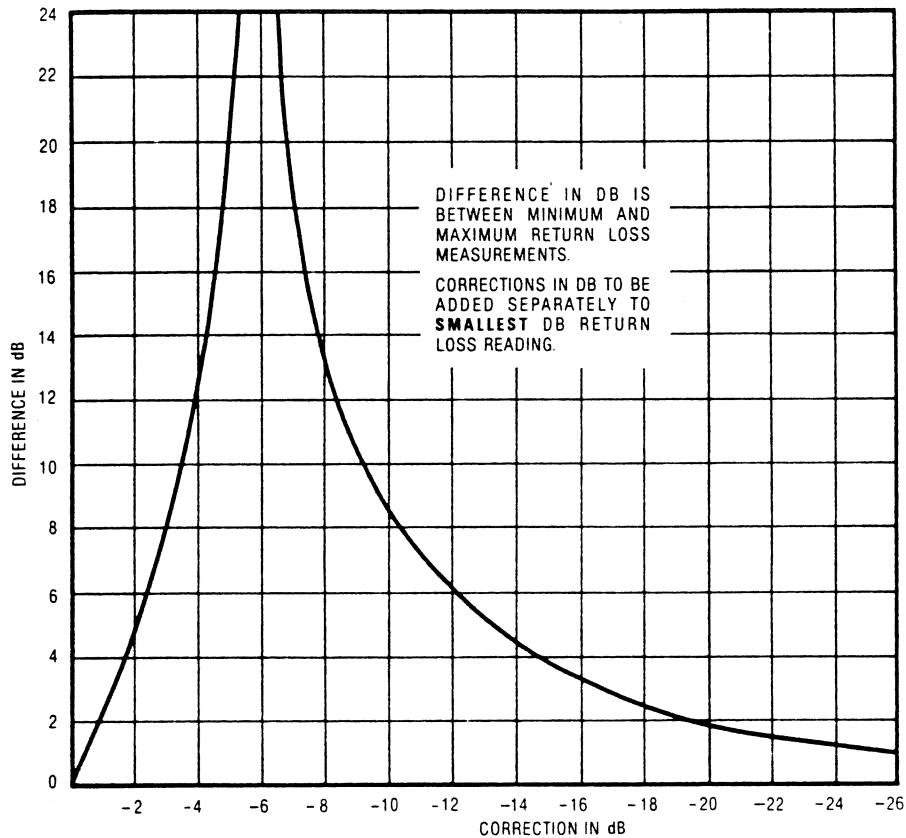

Figure 4-c. Signal Separation Chart
11. The maximum and minimum measured return loss values correspond to the directivity signal and the sliding load signal adding and subtracting. You can separate these two signals with the signal separation chart, Figure 4-c. Calculate the difference in dB between the maximum and minimum measured return loss for the first chosen frequency and locate this value on the vertical axis of Figure 4-c. Draw a horizontal line across the chart from this point and note the two places where it intersects the curves. The intersections are the two correction values in dB. Add each of them to the minimum measured return loss. The resulting two corrected values are the directivity signal and the sliding load reflected signal. Exactly *which* value represents directivity is determined later in this procedure.
**Example:** At 3 GHz you measure a maximum measured return loss of  $-42$  dB and a minimum return loss of  $-30$  dB. The difference is 11 dB. Refer to Figure 4-c. Find 11 dB on the vertical axis, and draw a horizontal line across the figure from that point. Note the correction values on the horizontal axis are  $-4$  dB and  $-8.5$  dB. Adding each of these to the minimum measured return loss results in two values:  $-34$  dB and  $-38.5$  dB. One of these values is the directivity value, the other is the return loss of the sliding load's load element.
13. Slowly retract the center conductor of the sliding load about 2 mm. This will introduce a discontinuity at the directional bridge test port and change the measured directivity. Repeat steps 10 and 11 above. Use Figure 4-c to separate the signals. One of the new values should match one of the original values – and is the sliding load’s return loss. *The value that changed is the measured directivity.*